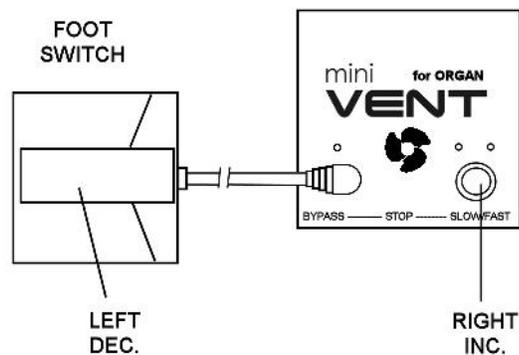

Figure 3
**Universal Method** – Change to Programming Mode; use a single momentary switch – or the Tip switch of a dual footswitch – as Bypass. Use the mini-VENT's onboard Speed switch for the other signal, as shown in Figure 3.